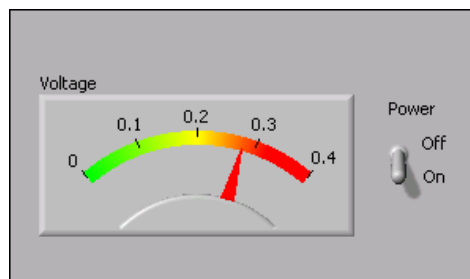

Figure 10.8
1. Open a blank VI and build the front panel shown in Figure 10.8.
- (a) Place the Meter, located on the Controls»Numeric Indicators palette, on the front panel. Configure the meter scale for 0.0 to 0.4. Use the Labeling tool to double-click 10.0 and type 0.4. You might need to enlarge the meter to display the scale as shown in the example (Figure 10.8).